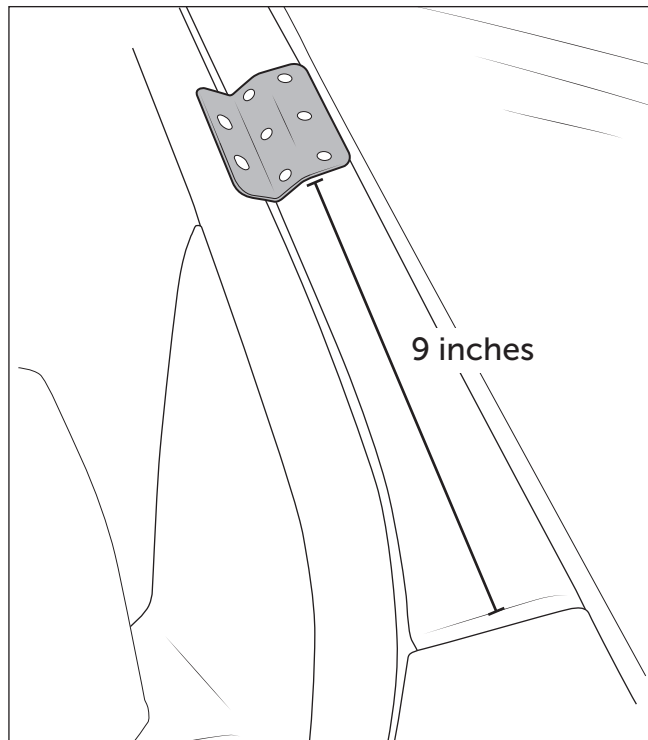

Figure 11
1. Measure up 9 inches from the bottom of the A Pillar (fig. 11).